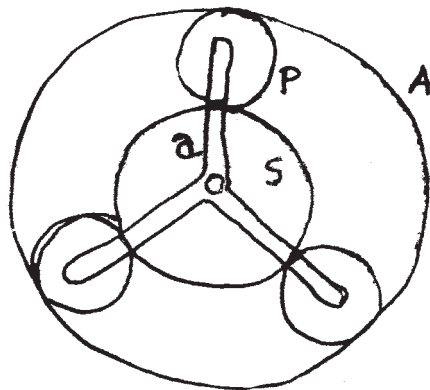

Fig. 1
**Q4)** The annulus A in an epicyclic gear train rotates at 300 rpm about the axis of fixed sun gear which has 80 teeth. A three armed spider is driven at 180 rpm. Determine the number of teeth required on planet P. Refer Fig.1 **[10]**